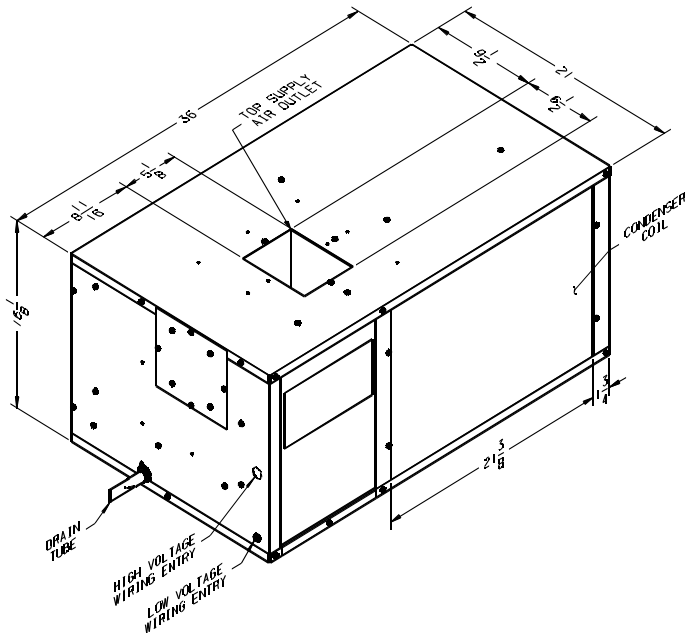

FIGURE 1
This unit may be mounted and ducted in any of three ways as described in the following text. Any mount method selected must allow for unrestricted air flow to and from the condenser coil. With perimeter mount systems, the condenser coil and wirebox access must be facing outboard (See Figure 1 & 2).
The usual mounting and ducting schemes are described (See Figure 1 & 2).
- b) A duct adaptor kit #6633-5151 consists of 4 10" diameter sheet metal starting collars. The pre-mounted collar mounts as shown in Figure 1 & 2 to the end of the unit after removal and discard of the end shipping plate and attached styrofoam block. **Do not remove the top shipping plate when using the end outlet.** The shipping plates and styrofoam blocks allow selection of top or